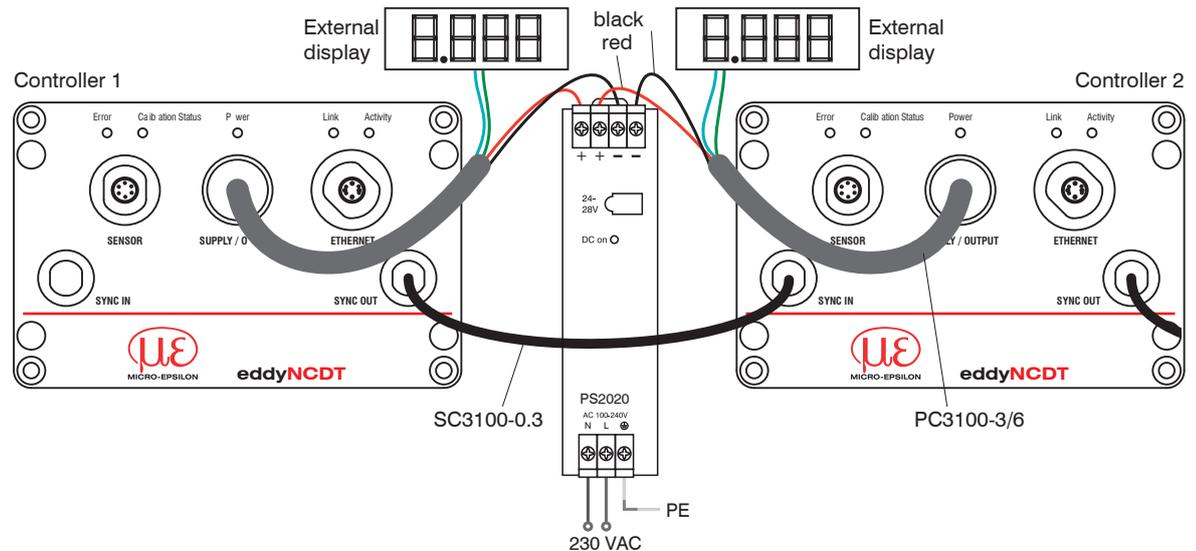

Fig. 23 Measurement setup and synchronization of two or more controllers DT 3100-SM
- to the 6-pin female connector (Supply/Output, see Fig. 23) on the controller.
Up to ten systems can be synchronized to one another by cascading in this way, see Chap. Fig. 23. Controller with different sensor frequencies can be synchronized.